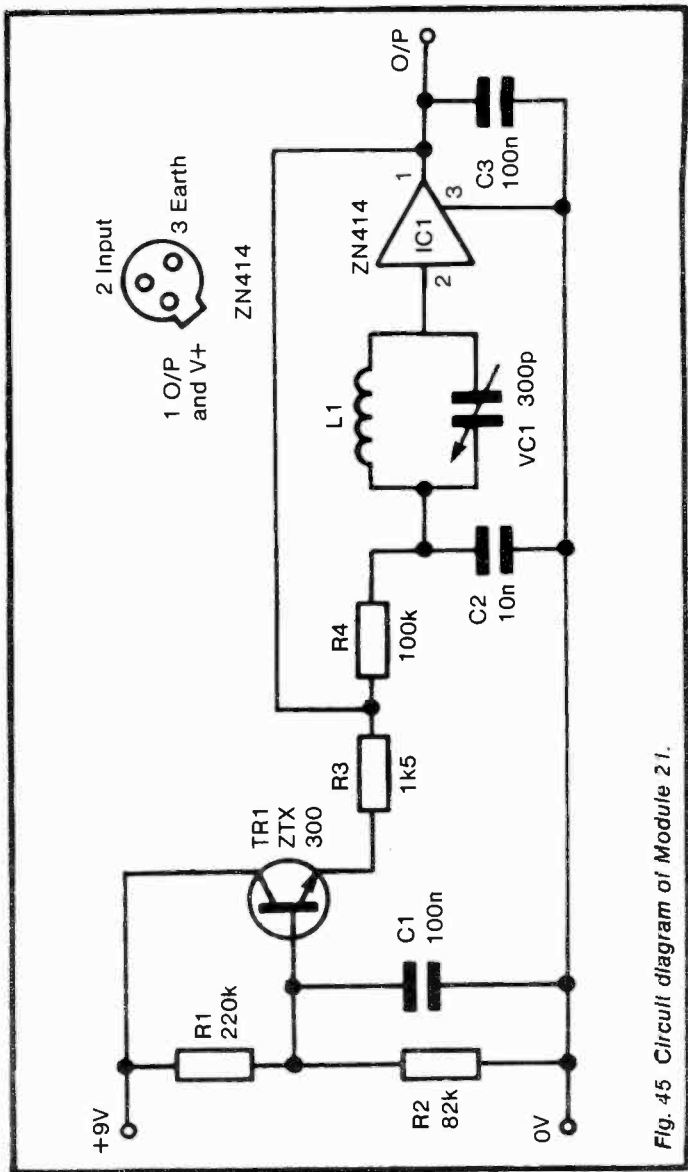

Fig. 45 Circuit diagram of Module 21.
**Circuit diagram:** see Figure 45.